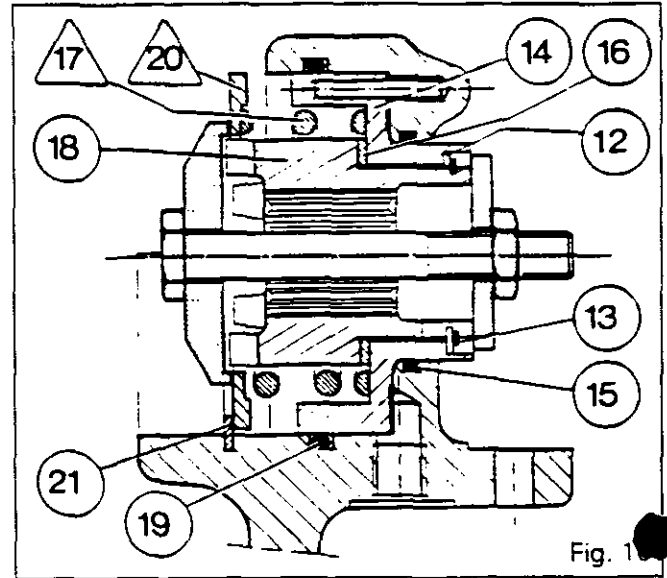

Fig. 10
**Improved front axle - Differential****E . Removal of differential lock (Fig. 10).**
27. Using tool MF471, correctly centred, compress the spring /17\ until the supporting washer (21) is free.
28. Remove the washer (21).
33. Remove the retaining ring (13) of the dog tooth coupler (18).
34. Dismantle the coupler (18), the thrust washer (16) and the lug washer (12).
35. Remove the piston (14).
36. Take out the O'rings (15) and (16).